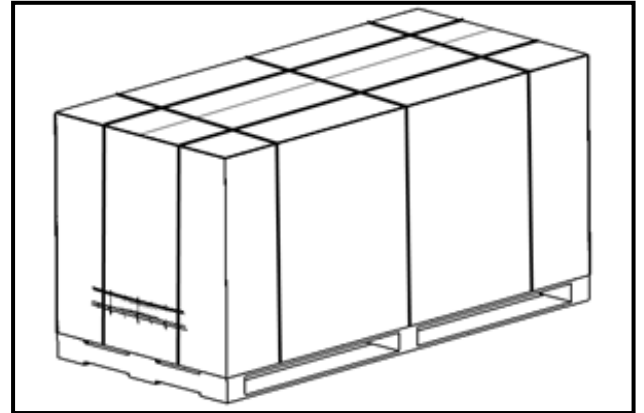

Fig. 1
1. Locate an open area to unbox the packaged TreadClimber (Fig.1).